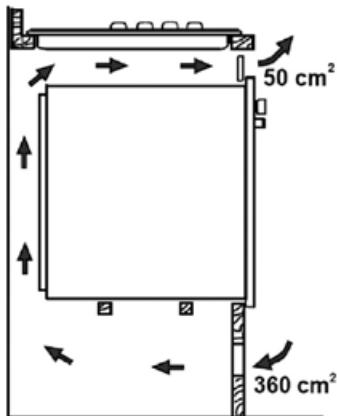

Fig. 9a
7. If no oven is installed, allow a gap of a minimum of 20 mm below the cooktop. For a dimensional scheme with an oven installed, refer to Fig. 9a or 9b.